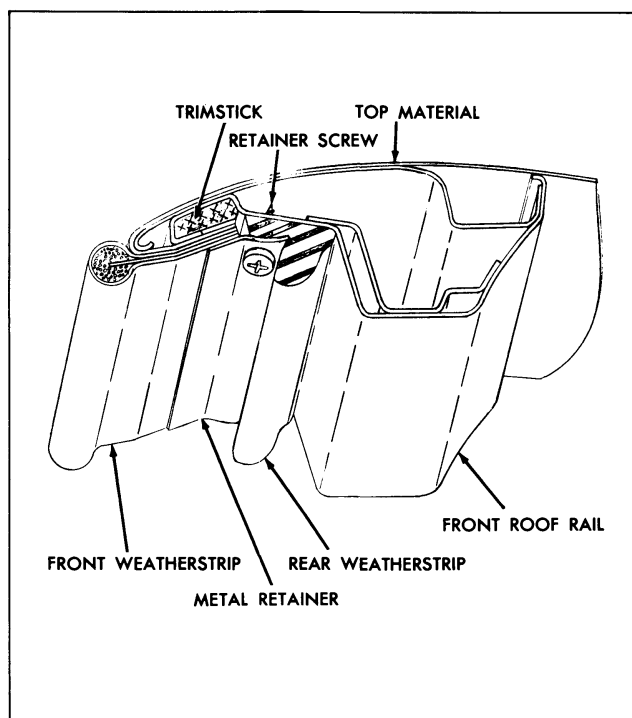
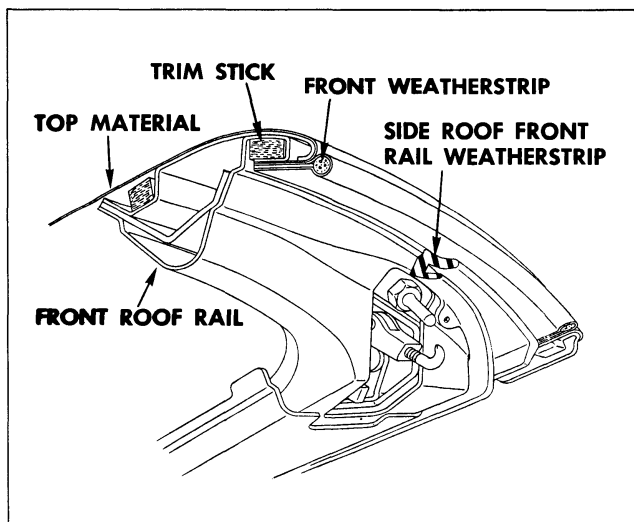

Fig. 21-9 Pontiac Front Roof Rail Assembly
Fig. 21-10 Tempest Front Roof Rail Assembly
3. At the front of body, raise front roof rail, remove retainers and front weatherstrips, and detach top material from front roof rail (Pontiac, Fig. 21-9; Tempest, Fig. 21-10).